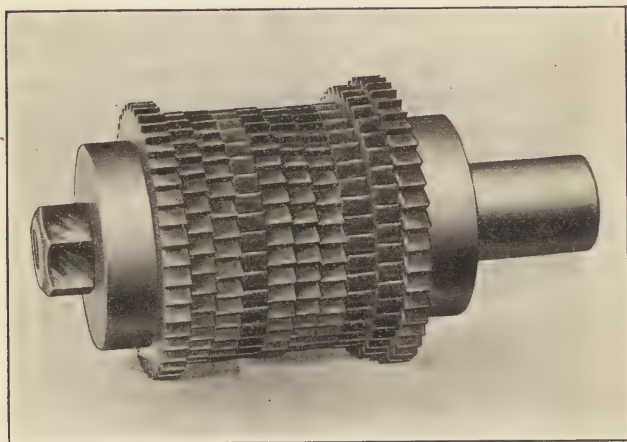

Fig. 5. Cutters Treated by Pack Hardening.
**Pack Hardening Thin Cutters.**—In a shop where a quantity of cutters is to be hardened, they should be arranged as in Fig. 5. This shows ten milling cutters on one stud, with a washer on each end, small enough in diameter to allow the cutters to harden well below the bottoms of the teeth, and at the same time large